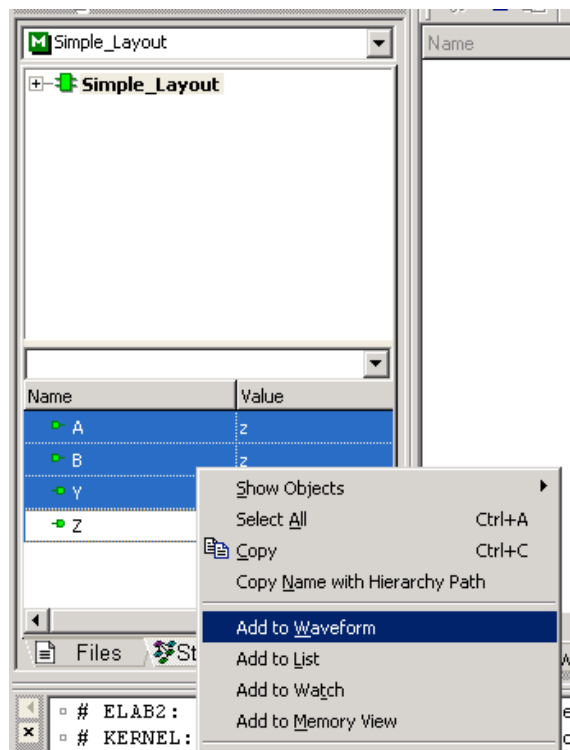

Figure 27
7. Add the signals to the waveform by dragging the signals one by one into the left side of the waveform. A faster method of adding signals to the waveform is to select the signals using the Shift or Ctrl keys. Now you may drag them as described above into the waveform. You can also right-click on a selected signal, and click the Add to waveform option in the pop-up menu as shown in Figure 27.